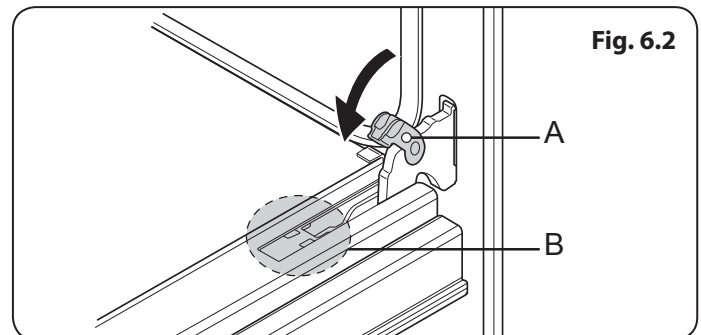

Fig. 6.2
2. Gently close and align the the left and right hinge levers "A" are hooked to part "B" of the door (**Fig. 6.2**).